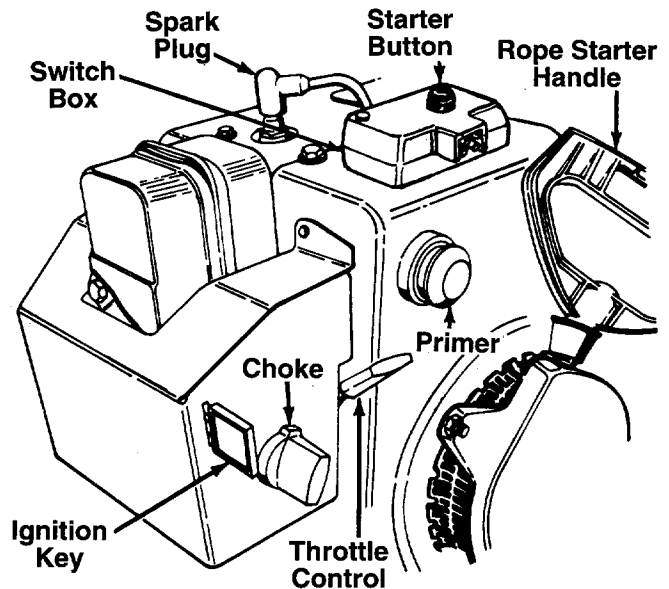

FIGURE 21.—Optional Electric Starter Shown
### THROTTLE CONTROL (See figure 21)
### SAFETY IGNITION SWITCH (See figure 21)
2. Make certain the auger and drive clutch levers are in the disengaged (released) position. Place the shift lever in NEUTRAL (N) position.
3. Move throttle control up to FAST position. Insert ignition key into slot. See figure 21. Be certain it snaps into place. Do not turn key.
6. Push starter button to crank engine. See figure 21. As you crank the engine, move choke knob to FULL choke position.
5. Push primer button two or three times. See figure 21.
6. Grasp starter handle (see figure 21) and pull rope out slowly, until it pulls slightly harder. Let rope rewind slowly.